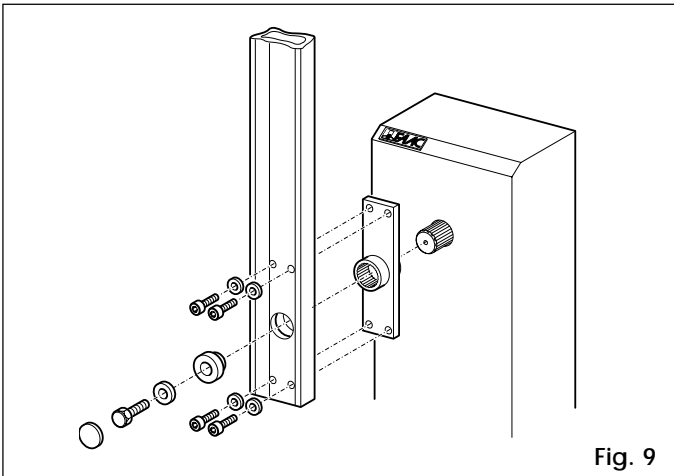

Fig. 9
- 4) Assemble the beam using the screws supplied, as shown in Figures 9, 10 and 11.